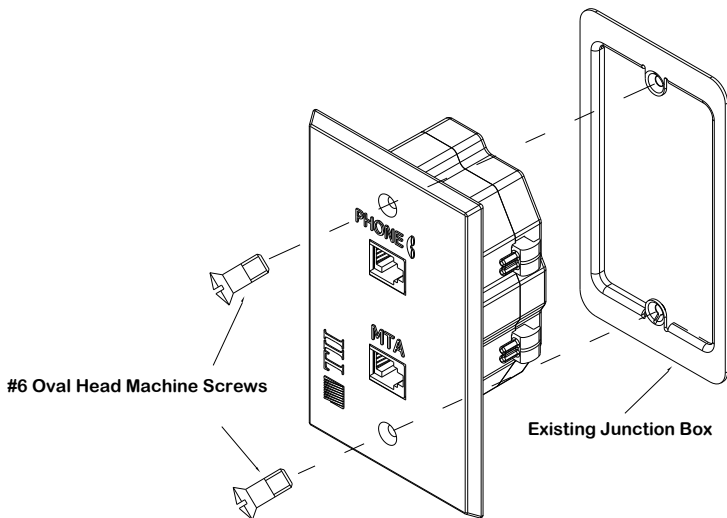

Figure 2
3.8 Dress the wires properly inside the junction box and secure the SVWJ to the junction box using the supplied #6 oval head screw's (See Figure 2).